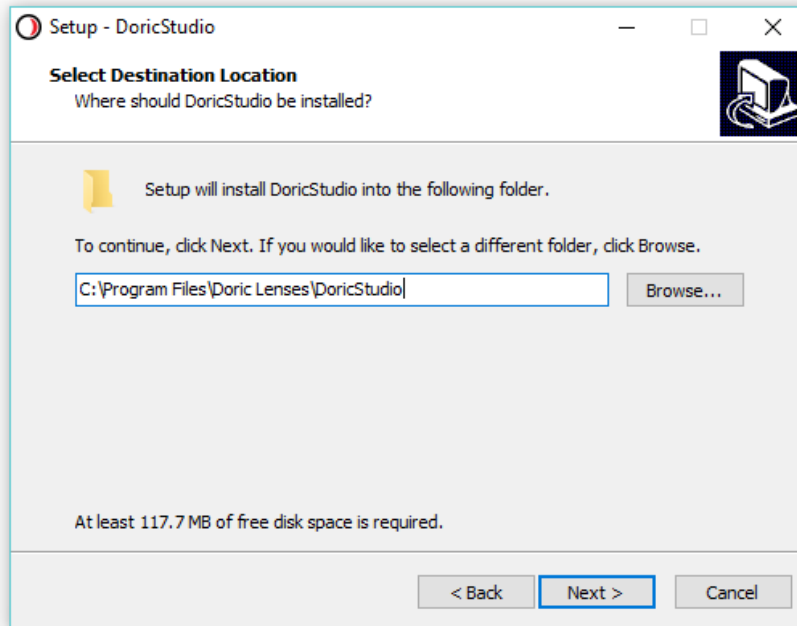

Figure 2.2: *Select Destination Location*
5. **Choose** where to install the software (Fig. 2.2) and click **Next**.